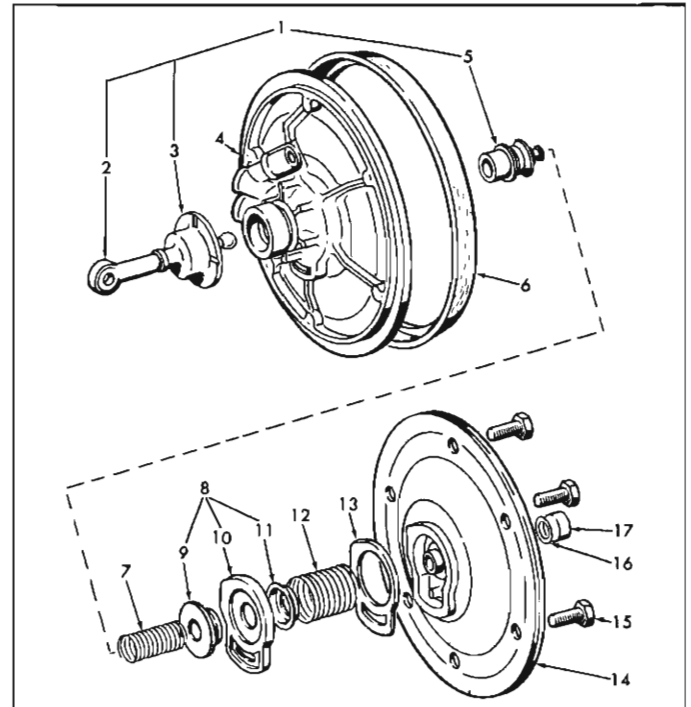
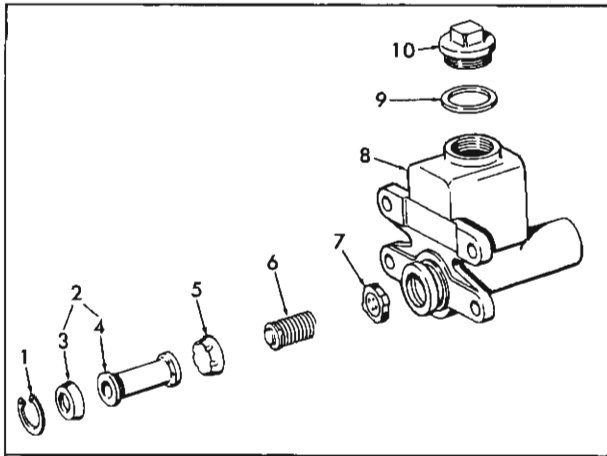
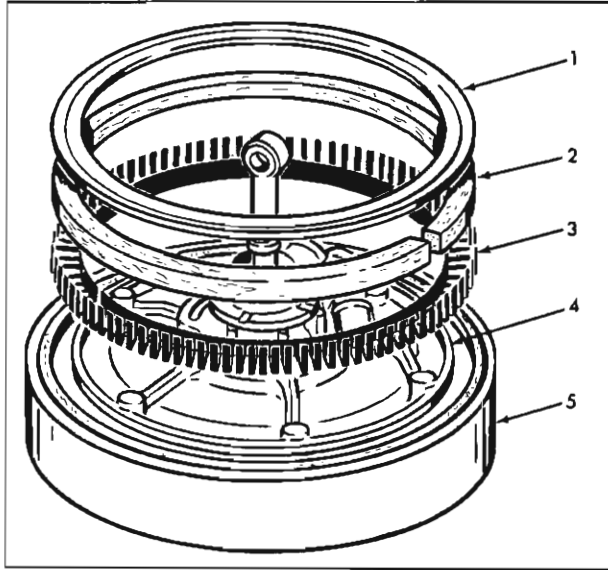

Fig. 35—Details of Vacuum Power Piston and Valve
Fig. 36—Details of Master Cylinder
Fig. 37—Assembly of Piston Packing, Expander Ring and Felt
10. Remove piston felt (2) and expander ring (3) from piston assembly (4).
11. Remove six piston plate attaching screws (15) and separate front piston plate (14) and piston packing (6) from piston plate (4, fig. 35).
12. Remove valve return spring (7), floating control valve and diaphragm assembly (8), floating control valve spring (12) and diaphragm plate (13). Separate floating control valve spring retainer (11) and floating control valve diaphragm (10) from floating control valve (9).
13. Remove rubber reaction disc (17) and shim (16), if present, from front piston plate. If necessary, use a piece of rod having a smooth flat end to push reaction disc and shim out of piston plate.
**NOTE: DO NOT** remove valve operating rod (2) and valve plunger from rear piston plate unless it is necessary to replace faulty or damaged parts. Normally steps 14 and 15 are omitted.
14. When it is found necessary to replace either valve operating rod (2) or valve plunger (5), remove valve rod seal (3) from groove in piston plate and pull seal over end of rod.
16. Remove snap ring (1) from groove in base at end of master cylinder (fig. 36).
17. Remove piston assembly (2), primary cup (5), retainer spring assembly (6), and check valve (7) from master cylinder (8).
18. Remove filler cap (10) and gasket (9) from master cylinder body.
**NOTE: DO NOT disassemble piston assembly (2) unless secondary cup is damaged or faulty.**
1. Coat bore of master cylinder (10) with brake fluid.
2. If secondary cup (3) has been removed, dip cup in brake fluid and assemble over end of piston (4) from end shown (fig. 36).
3. Dip piston assembly (2), primary cup (5), and check valve (7) in brake fluid. Stack parts in piston in order shown and assemble in master cylinder bore far enough to clear snap ring groove.
4. Install snap ring (1) in groove of cylinder. Make certain snap ring is firmly seated in groove.
5. Assemble new gasket (9) on filler cap and replace filler cap (10).
6. If valve operating rod (2) and valve plunger (5) were separated, assemble these parts as follows (fig. 35). assemble valve rod seal (3) on rod as shown, insert valve rod through piston (4), dip valve plunger (5) in alcohol and assemble to ball end of valve rod. Make certain ball end of rod is locked in place in valve plunger.
7. Assemble floating control valve diaphragm (10) over end of floating control valve (9). Make certain diaphragm is in recess of floating control valve. Press floating control valve spring retainer (11) over end of floating control valve and diaphragm.
8. Clamp valve operating rod in a vise with rear piston plate (4) up. Lay leather piston packing (6) on rear piston plate with lip of leather over edge of piston plate.
9. Install floating control valve return spring (7) over end of valve plunger (5).
10. Assemble diaphragm plate (13) in relief of diaphragm and assemble floating control valve with diaphragm (8) in recess of rear piston plate.
11. Install floating control valve spring (12) over retainer (11). Align and assemble front piston plate (14) with rear piston plate. Center floating control valve spring on front piston plate and center valve plunger stem in hole of piston.
12. Hold front and rear piston plates together and install six piston plate cap screws (15). Leave screws loose.
13. Insert shim (16) and rubber reaction disc (17) in recess at center of front piston plate.
14. Place (Tool J-7780) (5, fig. 37) over piston packing, turn piston assembly (4) upside down and assemble expander ring (3) against inside lip of leather packing as shown. Saturate felt (2) in "Bendix Vacuum Cylinder Oil" or "Delco Shock Absorber Fluid—Type A" and assemble in expander ring. Assemble retainer ring (1) over